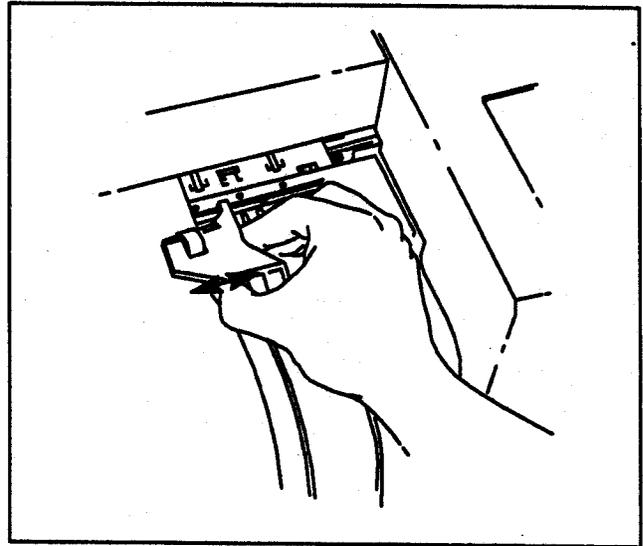

Figure 3-12. Positioning Movable Pinch Wheel
d. Position the right-hand movable pinch wheel arm so that the guide arrow on the arm is directly above the right-hand edge of the media. See Figure 3-12.